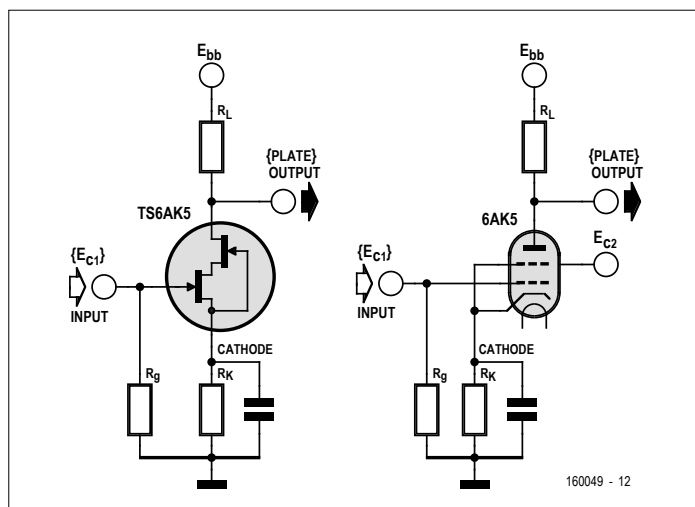

Figure 1. A 6AK5 (= EF95, Ed.) pentode tube (right) and a Teledyne Fetron replacement device (left) with the alliterative type number TS6AK5.
**Figure 1** shows this revolutionary invention in its full glory: a pair of n-channel high-voltage FETs connected in cascade to form a three-terminal semiconductor device with characteristic curves similar to those of a pentode. With a maximum operating voltage of 350 V, high maximum frequency and other similar properties, it was indeed suitable as a direct replacement for tubes — and with no need for filament heating. An original datasheet (in German) from the distributor Omni Ray can be found at [1]. They offered this phenomenal semiconductor component at an equally impressive price of 46 Swiss francs (each).